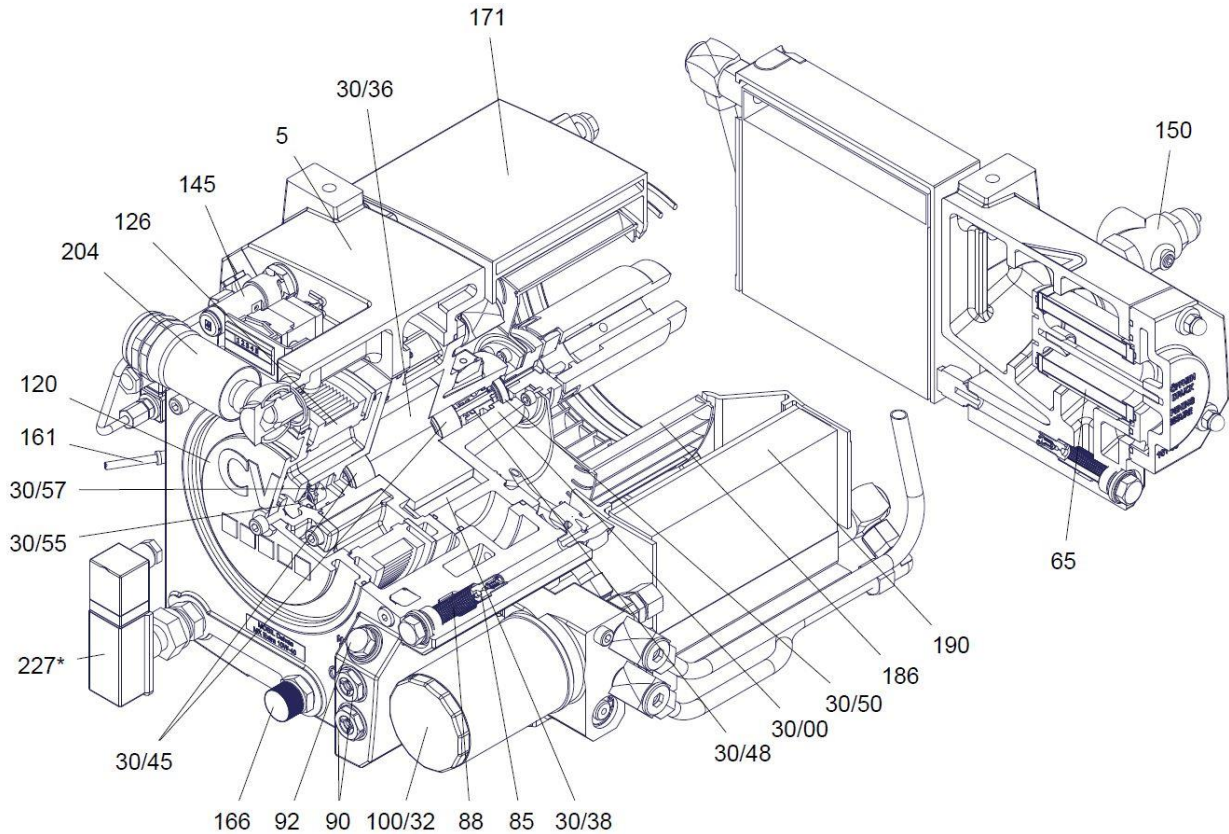

Fig. 5: Design of RPO compressor
4.3.1 Air filter (Fig. 5: Pos. 126)
4.3.2 Oil filter (Fig. 5: Pos. 100/32)
4.4 Oil cooler (Fig. 5: Pos. 190)
4.5 Thermostat (Fig. 5: Pos. 100)